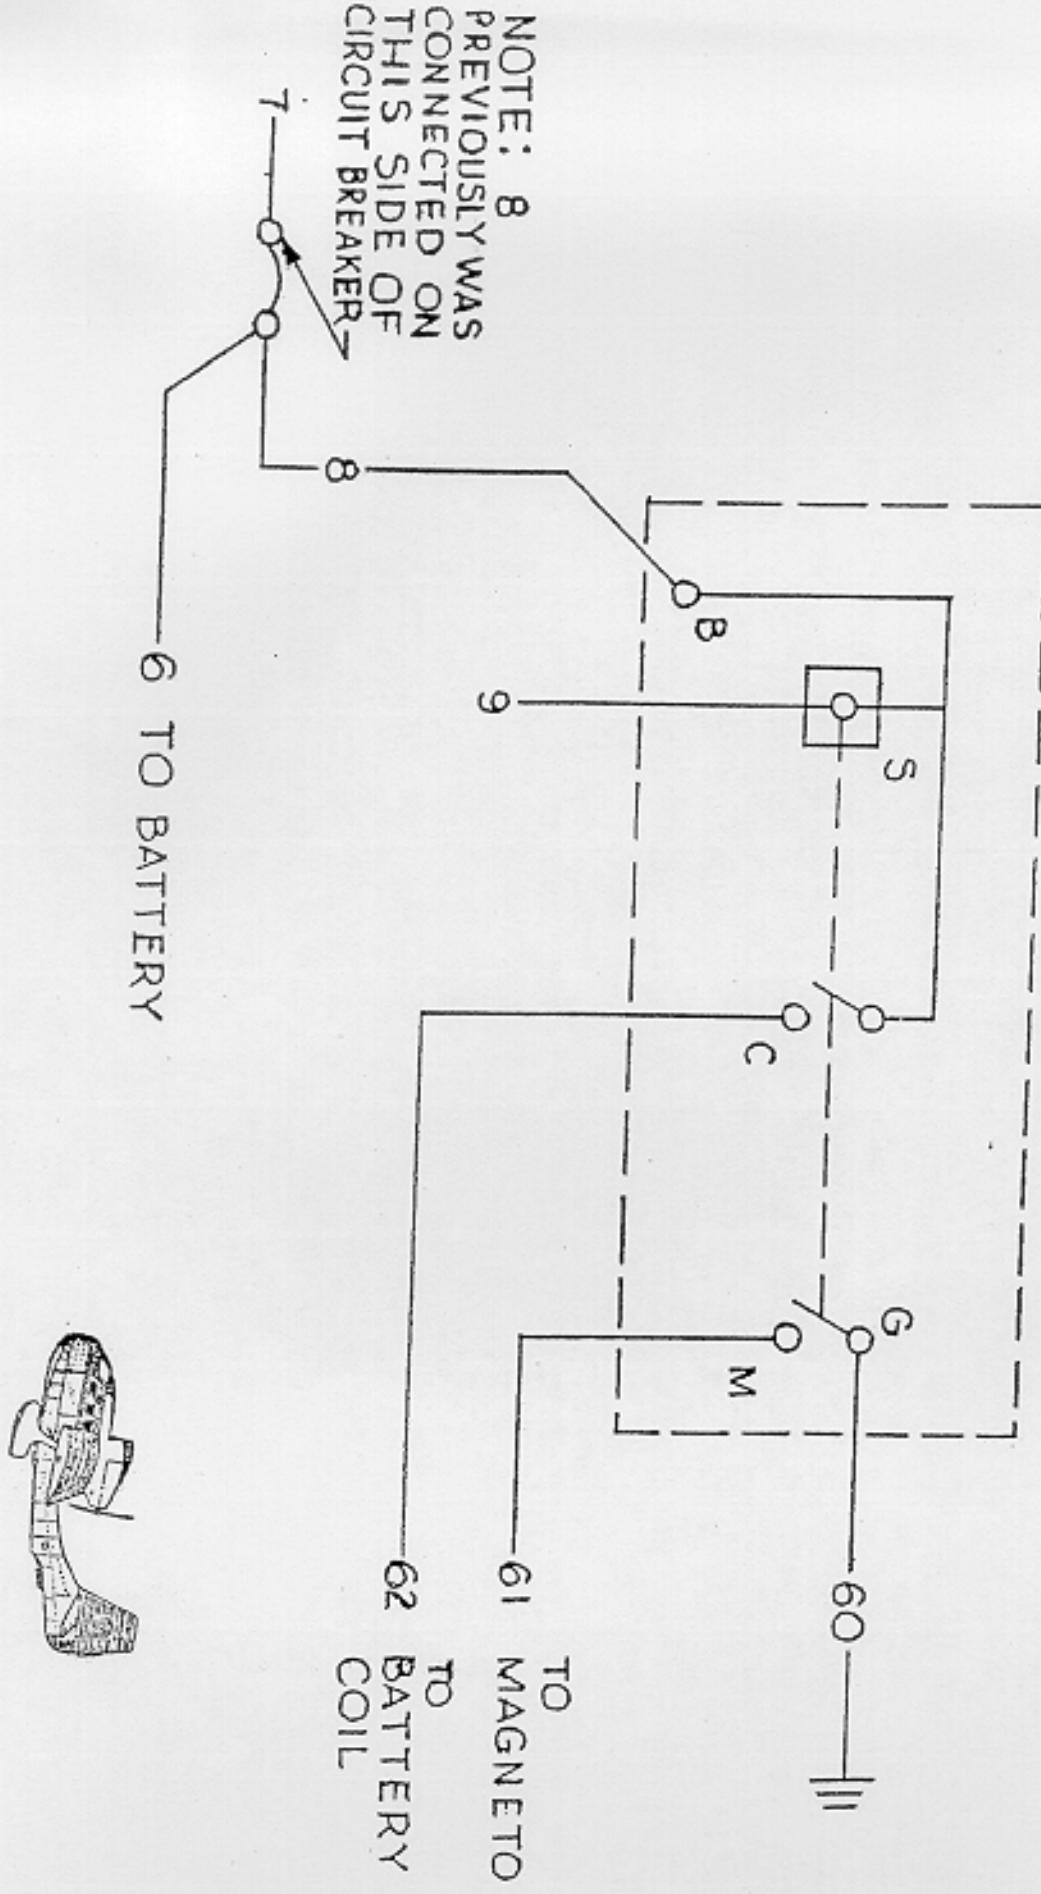

FIG. 2 INSTRUCTION No. 11, Page 2
3. The ignition switch must be replaced with the new type furnished in the kit and this is to be wired as shown on figure 2. When installing this switch also replace the placard with the new one furnished. Please note the relocation of wire No. 8 on the circuit breaker as shown on the wiring diagram.